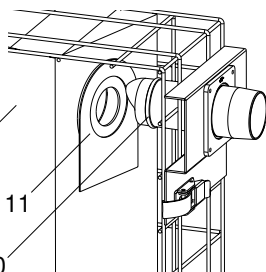

Fig. 17
- ❶ first of all, turn the two levers upwards (fig. 17).